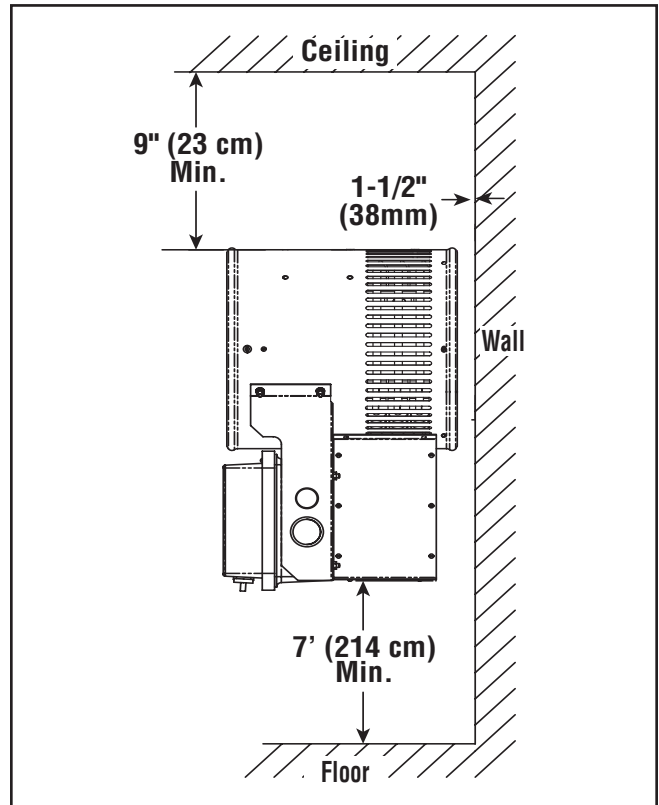

Figure 1: Horizontal Mounting
- B. Keep at least 5' clearance in front of the heater. Refer to figures 1 and 2 for side, top and back clearance requirements.